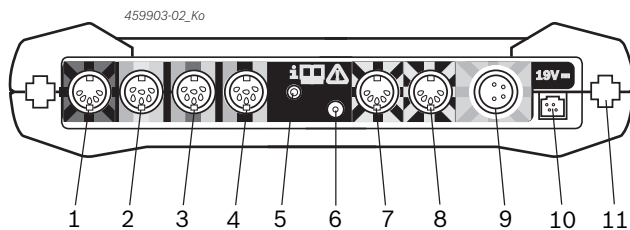

Fig. 2: Connection panel FSA 500 (viewed from underneath)
For connection see fig. 2, item 6.
5. Connect the sensors at the measurement unit slots provided (see fig. 2).